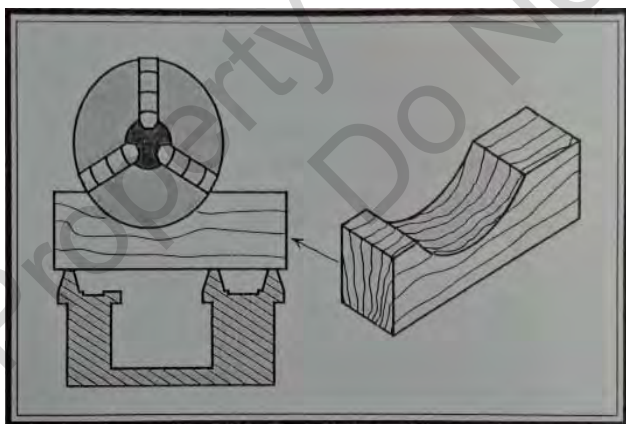

Figure 23. Wood chuck support cradle.
2. Lay a chuck cradle (see **Figure 23**) or plywood under the chuck or faceplate and over the bedway to protect the precision ground surfaces from damage and reduce injury if fingers get pinched